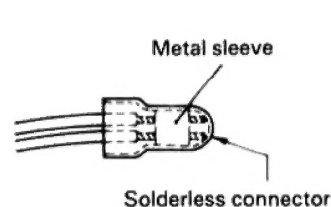

Fig. 34
3. Adjust the tips of the power cord and the primary lead wire with each other, then securely insert them into the connector as shown in Fig. 34.